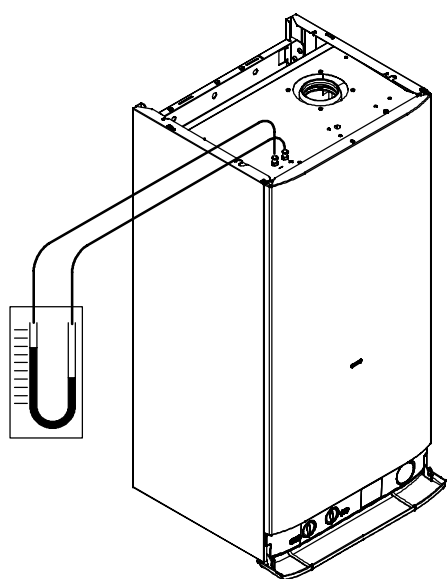

Fig. 70
- 1 Remove the caps of the pressure test points located on the top of the boiler and connect a differential pressure gauge (Fig. 70).